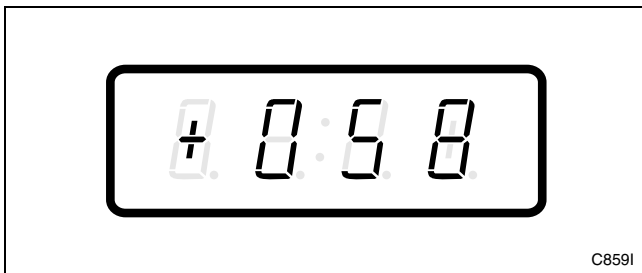

Figure 207
3. Press the DELICATES (+) or the COLD (-) keypad to scroll through the programmable options until “+058” appears in the VFD. Refer to *Figure 207*.